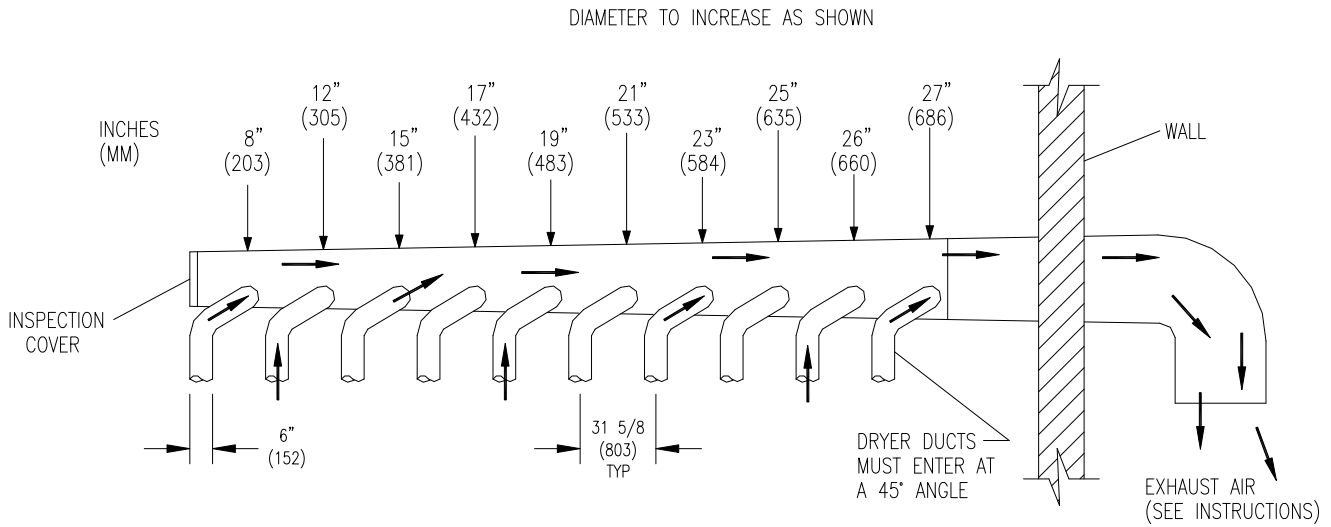

FIGURE 3— Dryer Exhausting Using A Main Discharge Duct.
4. EXHAUST INSTALLATION. (Refer to Figure 3) Exhausting of the dryer(s) should be planned and constructed so that no air restrictions occur. Any restriction due to pipe size or type of installation can cause slow drying time, excessive heat, and lint in the room.
Installation of several dryers, where a main discharge duct is necessary, will need the following considerations for installation (see Figure 3). Individual 6" (152 mm) exhaust ducts from each dryer should enter main discharge duct at a 45-degree angle in the direction of discharge airflow.
NOTE: Never install the individual ducts at a right angle into the main discharge duct. The individual ducts from the dryers can enter at the sides or bottom of the main discharge duct. Figure 3 indicates the various round main duct diameters to use with the individual dryer ducts. The main duct can be rectangular or round, provided adequate airflow is maintained. The total exhausting (main discharge duct plus duct outlet from the dryer) should not exceed the equivalent of 14 ft. (4.25 m) and two elbows. The diameter of the main discharge duct at the last dryer must be maintained to exhaust end.